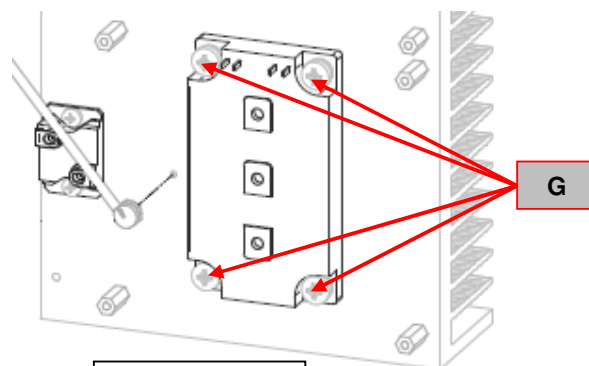

Figure 38
13. Using the screwdriver remove the 4 screws (**G**) that fix the IGBT module to the heat sink. See **Figure 38**